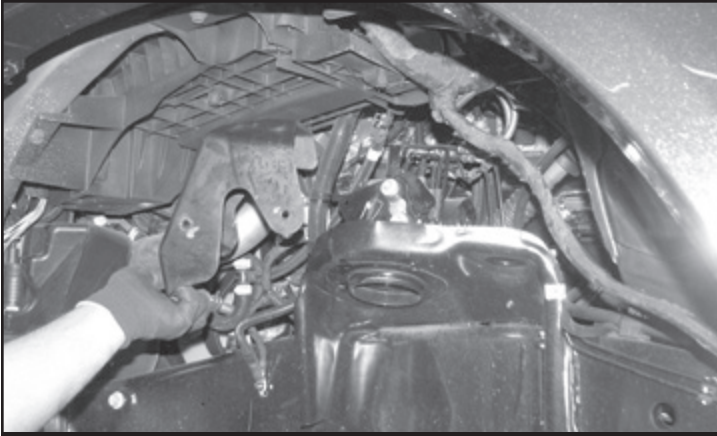

FIGURE 1 - STEP 6
6. **DRIVER SIDE ONLY** - Locate the Brake control module on the top of the coil bucket. **SEE FIGURE 1**